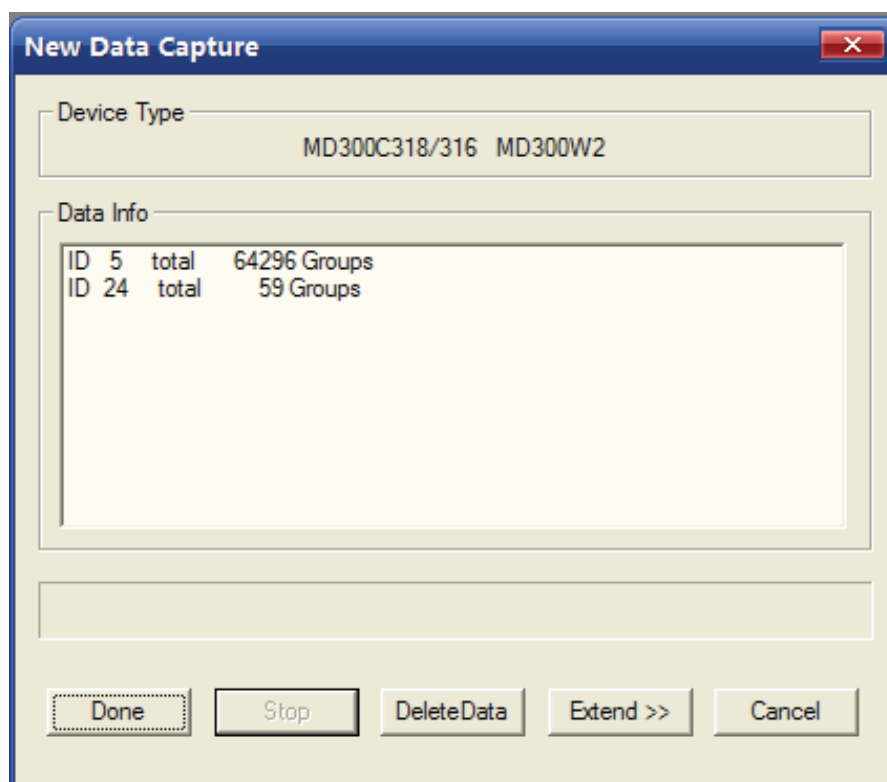
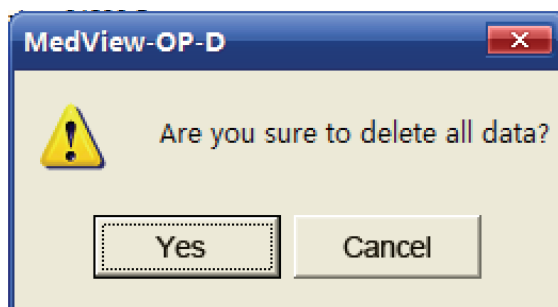
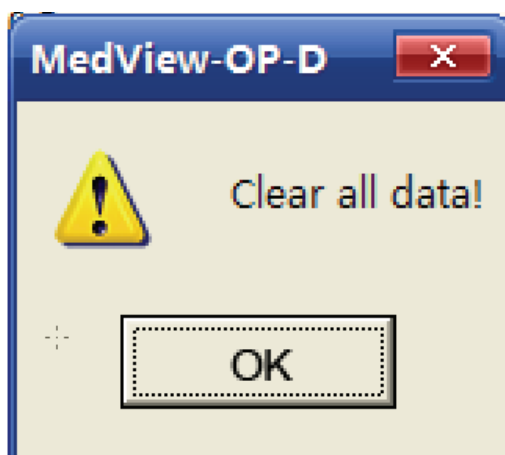

Figure 3-5
Figure 3-8
Figure 3-9
3.1.6 Delete Data: Click “Delete Data” button in Figure 3-5, the following figure appears, as shown in Figure 3-8. If clicking the “Yes” button, all the data in the device will be deleted, as shown in figure 3-9.